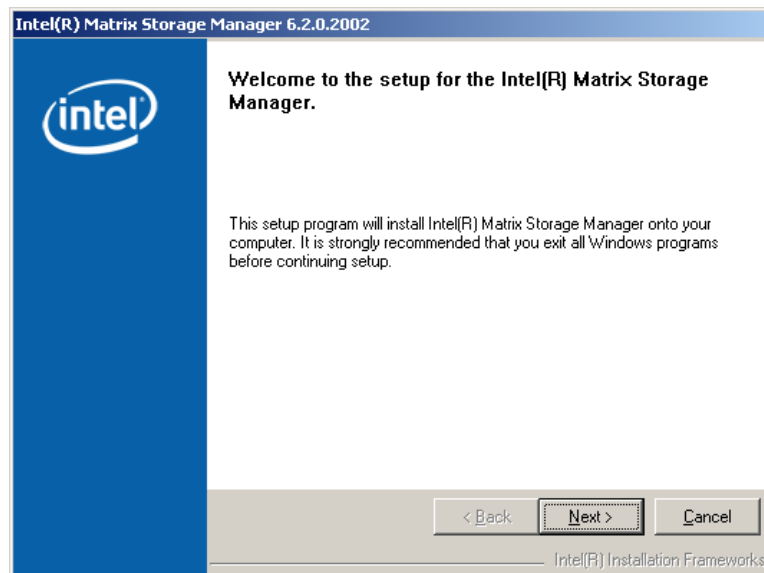

Figure 7-39: Matrix Storage Manager Welcome Screen
Step 7: Figure 7-39 shows the **Matrix Storage Manager** welcome screen.